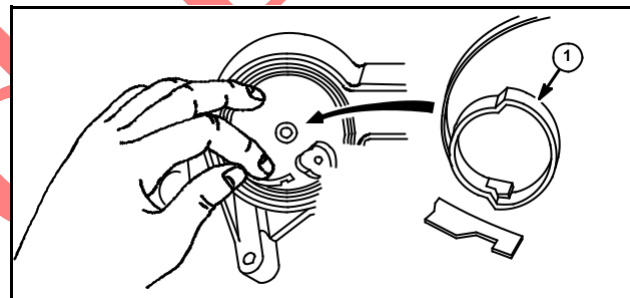

Fig. 58
4. Install spring anchor (1) on free end of spring and install pulley cover, Fig. 58. Do not install anchor screw at this time.